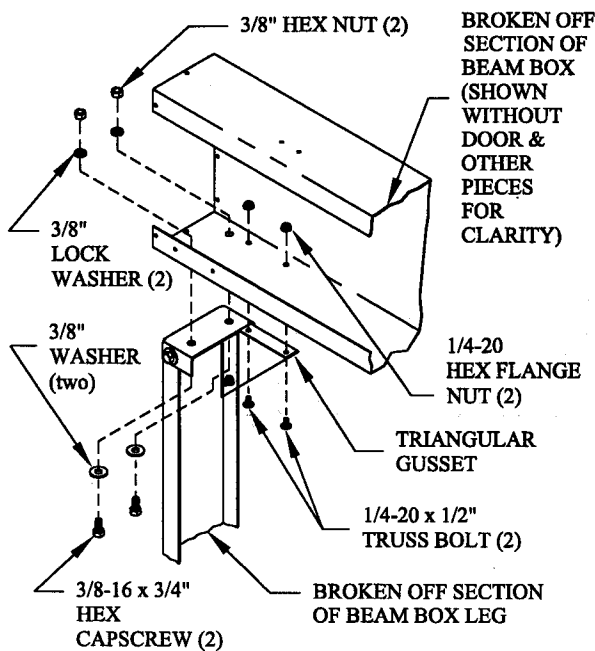

FIG. 6A
STEP 6. Secure the beam box legs (2, one on each end) to the bottom of the beam box. Use 3/8" bolt (2), washers, lock washers and nuts. Secure triangular gusset with 1/4" truss bolts (2) and hex flange nuts. See Fig. 6A. Fasten the gusset to the bottom of the beam box legs using 3/8" hardware. See Fig. 6B. Tighten securely.